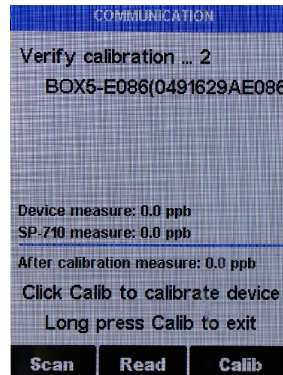

Figure 12.
13. The SP-350 will take the probe PTSA measurement three times to verify the calibration (Figure 12).